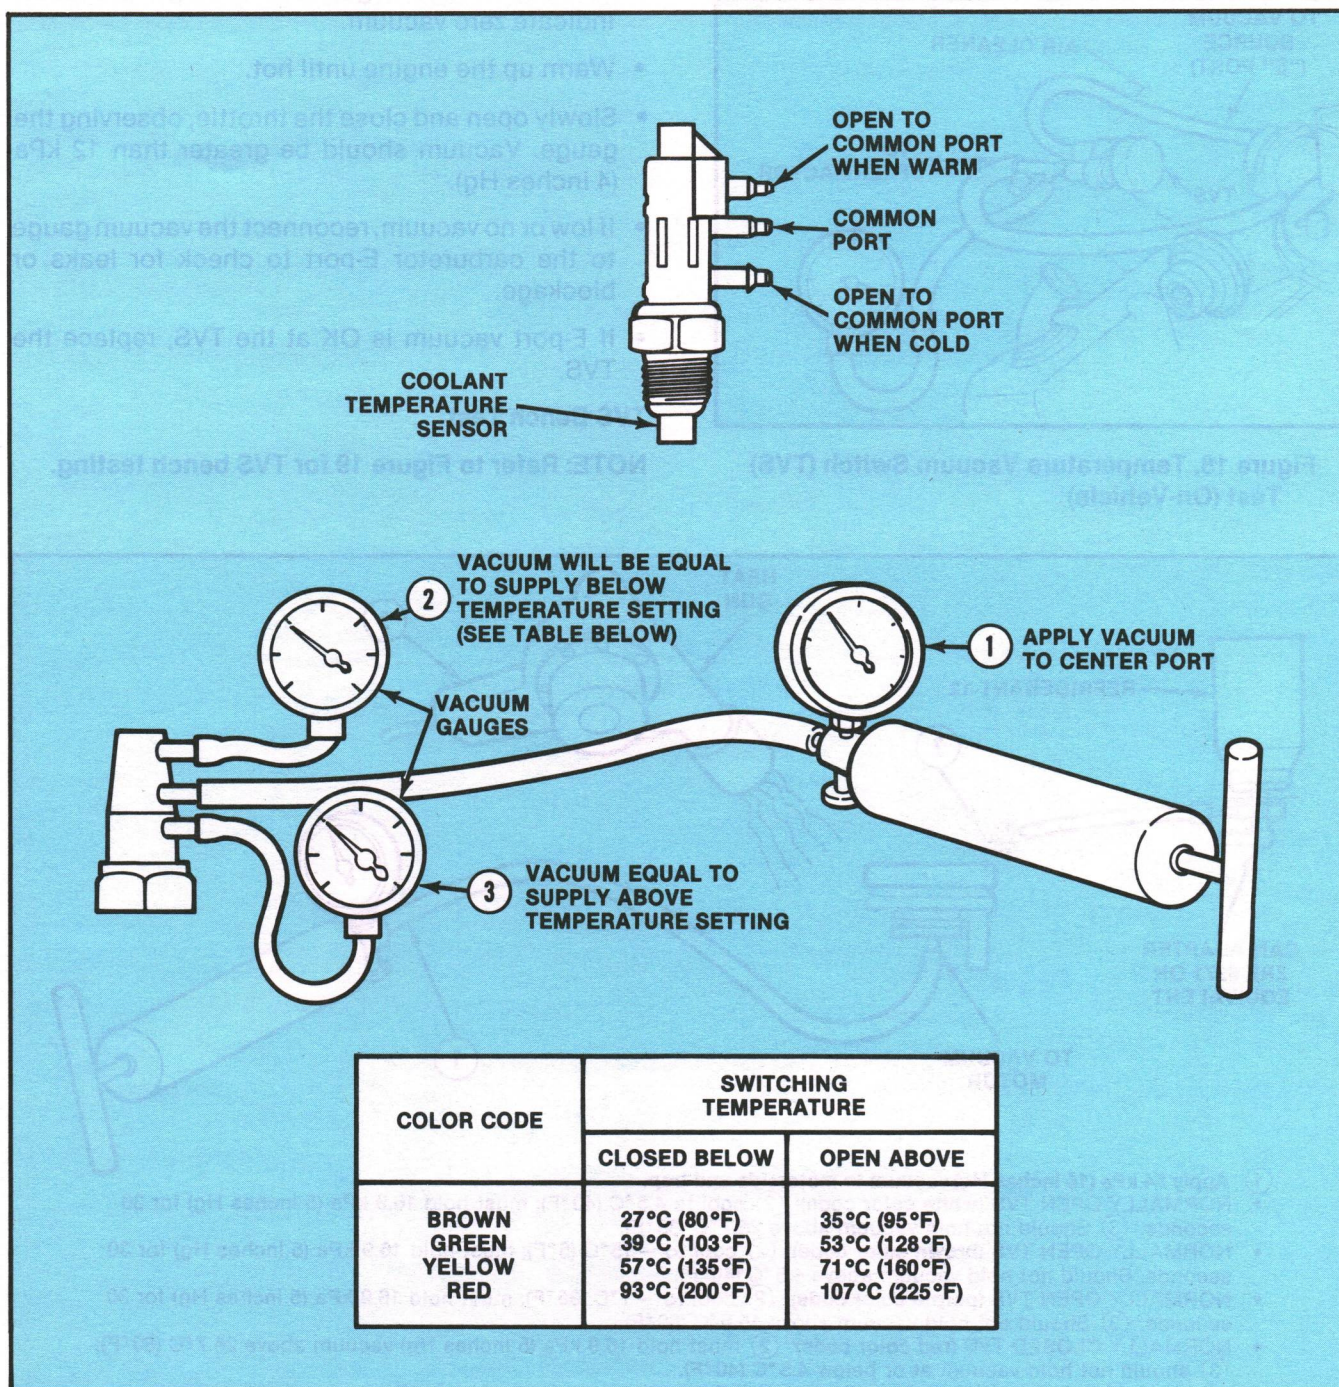

Figure 17. Three-Port VCV or PVS Test
- Upper port with engine temperature below the valve setting (Fig. 17).
Follow the steps in Figure 17 to test the VCV (or PVS) on the car. If it fails the test, cool the engine, release the radiator pressure, and install a new valve.